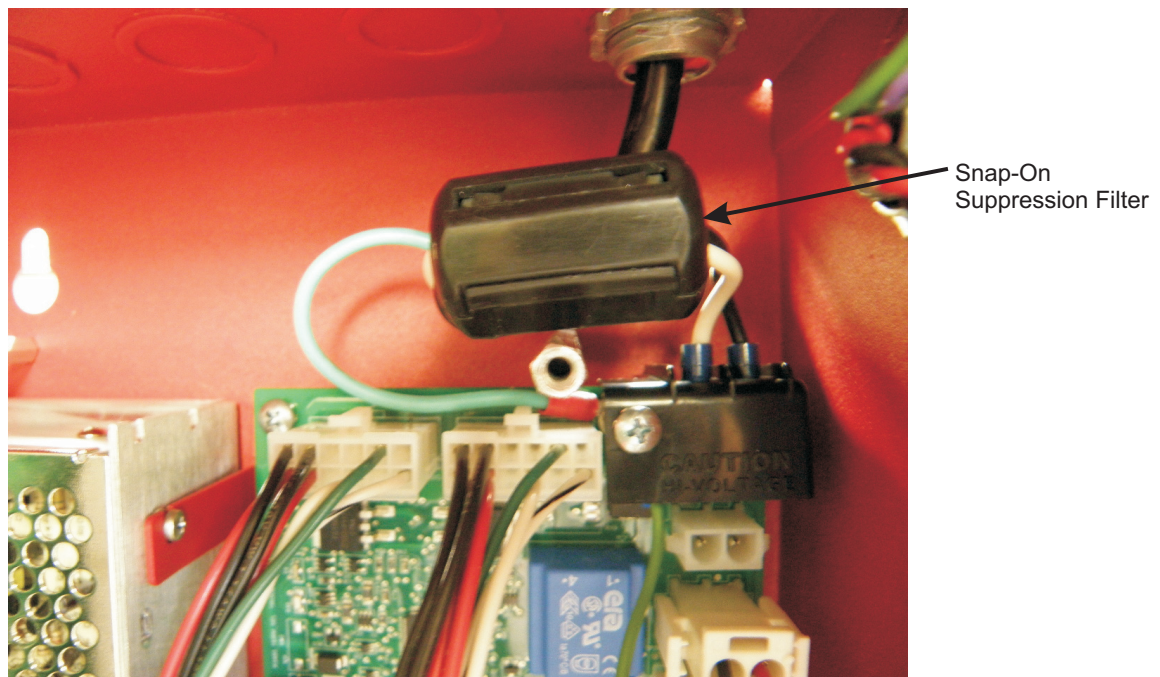

Figure 2-10. Snap-On Suppression Filter Shown Installed Around Black and White AC Power Wires
6. A Snap-On Suppression Filter, P/N 06-115904-087, has been provided to ensure the strictest compliance with FCC Part 15. The filter can be found in the NIC Card hardware kit. For networked control units, open the cylindrical ferrite core filter and place it around both the hot (black) and neutral (white) AC wires. Snap the filter tightly closed to secure in place around the wires. Refer to Figure 2-10 below.